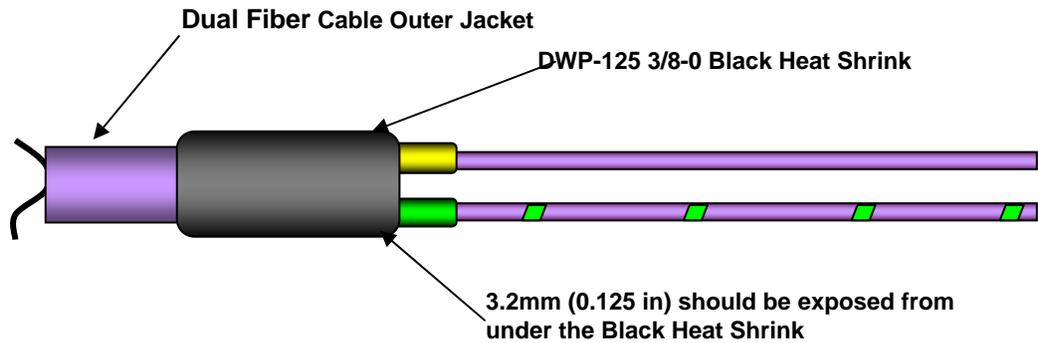

Figure 7-13 – Installing the Black Heat Shrink Sleeve
Step 5 - Slide the black heat shrink, part number DWP-125 3/8-0, 38mm +/- 2.5mm (1.50 in +/- 0.10 in) long up onto the outer dual fiber cable jacket. There should be approximately 3.2mm (0.125 in) of the yellow and green heat shrink exposed from under the black heat shrink. See Figure 7-13.